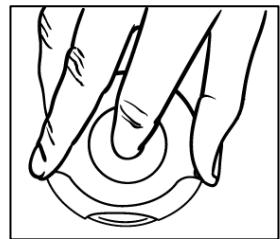

Figure 6 Clip Orientation
2. Grasp the clip between your thumb and finger and place your index finger through the center hole. The clip should be held, as shown in Figure 6.